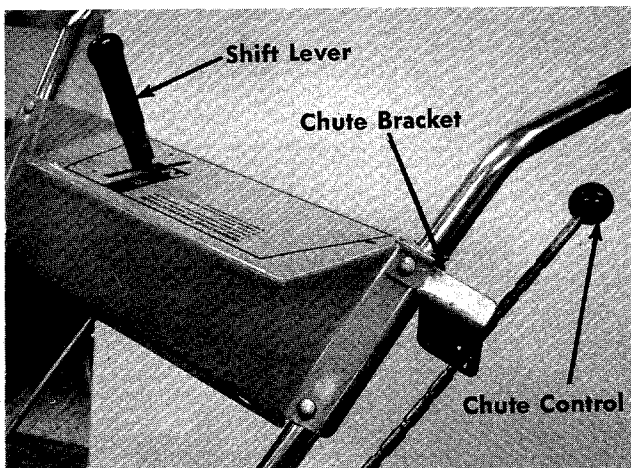

FIGURE 2.
To stop the snow thrower move the shift lever into neutral (N). Move this control only when the engine is operating. (See figure 2.)
Chute Controls. Raise the chute control knob and push or pull to rotate the chute. Loosen the wing nut to adjust the deflector. (See figure 2.)